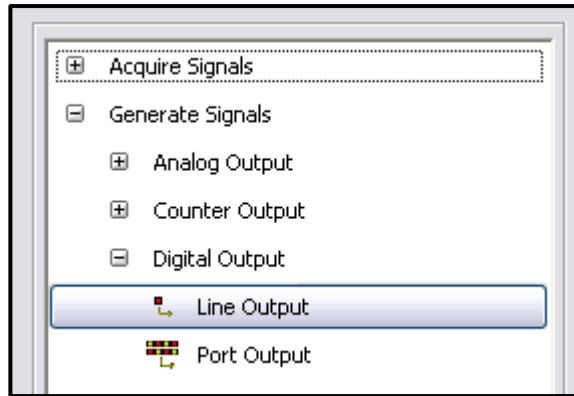

Figure 70. Select line output.
5. Select Digital Output and then Line Output and click Next [Figure 70].